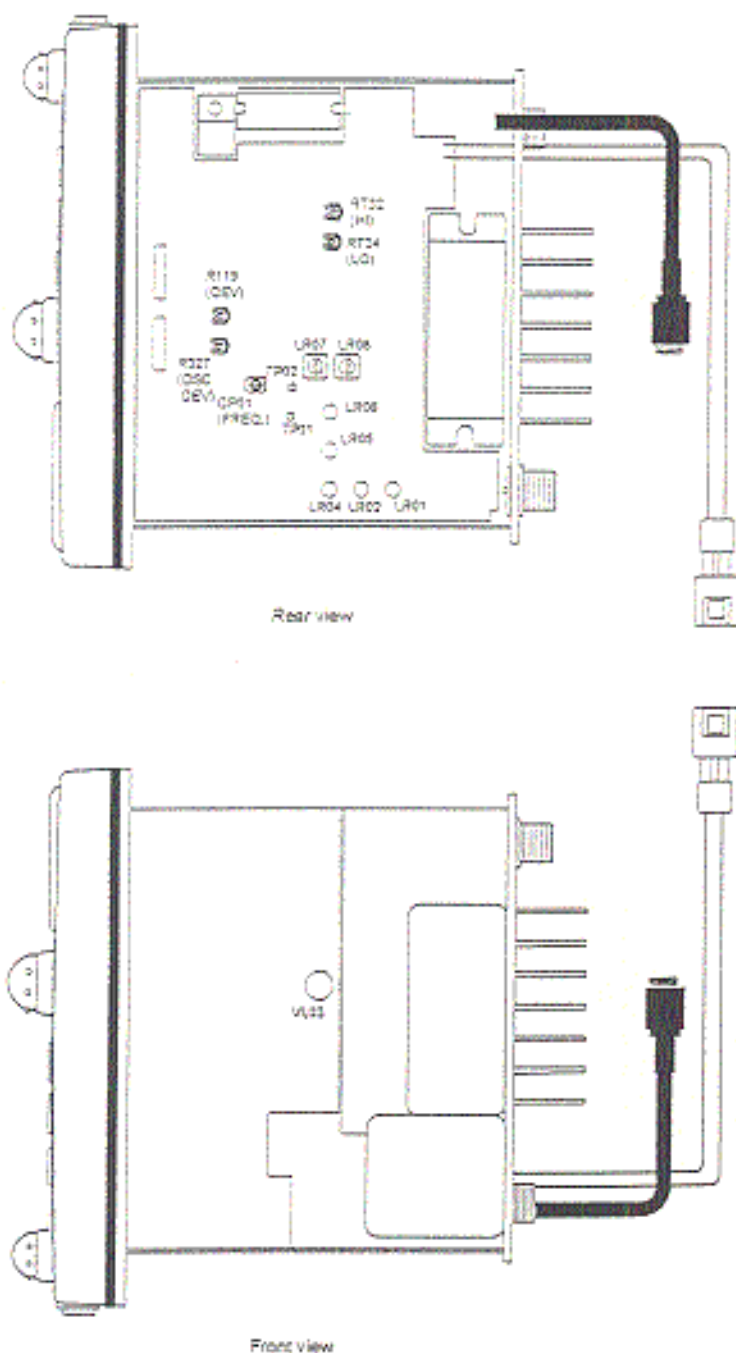

Figure 1 Test Points
Refer to Figure 1 for the location of alignment point.
2. Set up the equipment as shown in Figure 1. Confirm that the power supply is set for 13.8 VDC measured at the transceiver.